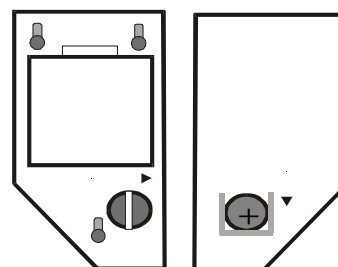

Fig 3
- c. Remove the battery from the back panel ( slide battery to the left) Install battery in the battery holder located on the front panel (see fig 3).